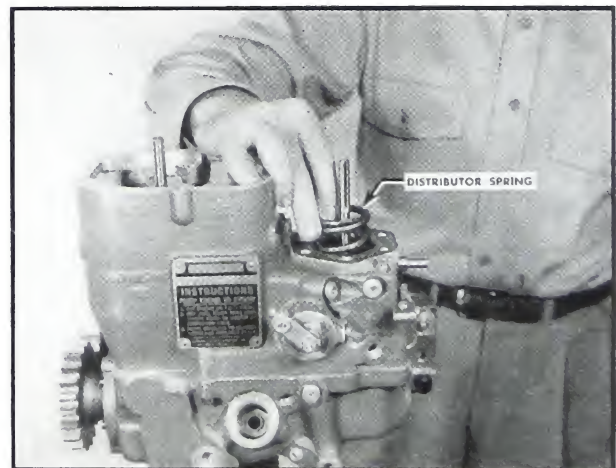

Fig. 5-337. Replace distributor spring
1. Check to see that the suction disc has been assembled. Insert disc and spring discharge disc. Spring dimensions are 2.137 in. free length and $1 \frac{13}{32}$ in. at 300 lbs. ± 10 lbs. Fig. 5-337.